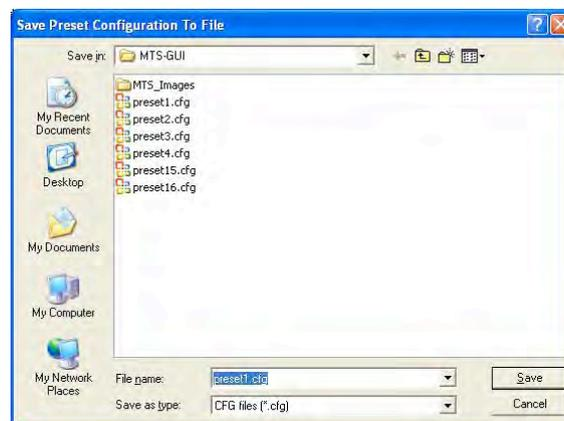

Figure 4-13: Save Preset to File Menu
- The “Save to file” process creates a “Preset #”.cfg file that is (by default) stored in the MTS folder in program files (see Figure 4-13 below). The save to file option allows the user to do the following...